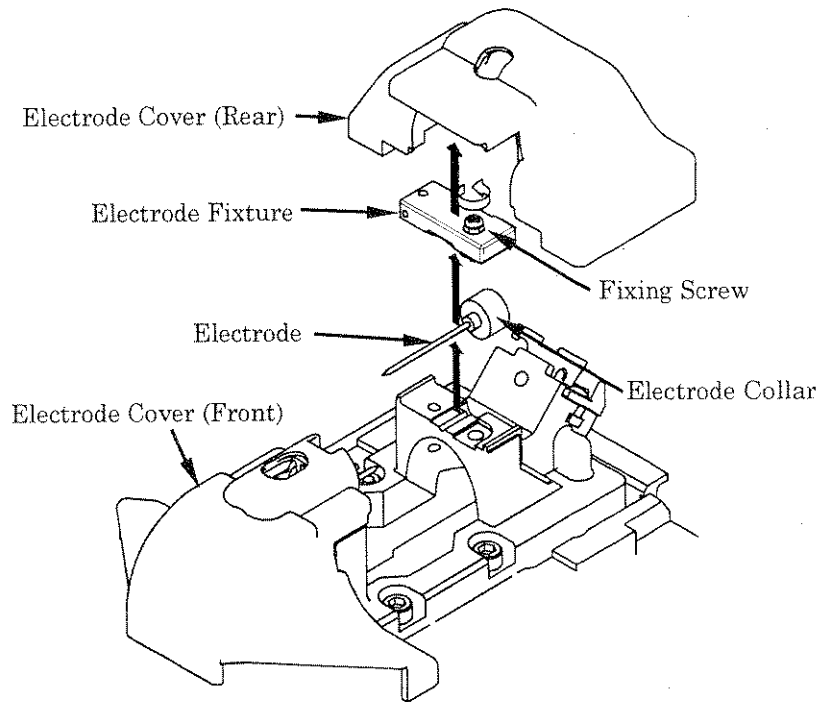

Fig. 5-9. Replacing Electrodes
- (1) Execute [Electrode Replacement] in [Maintenance Menu].
- (2) Instruction messages will appear on the screen to turn off the power. Press and hold **«ON/OFF»** till the LED color changes from green to red.
- (3) Remove the old electrodes. For the method of replacement, refer to Fig. 5-9.
- (4) Clean the new electrodes with alcohol-impregnated clean gauze or lint-free tissue and install them to the splicer.